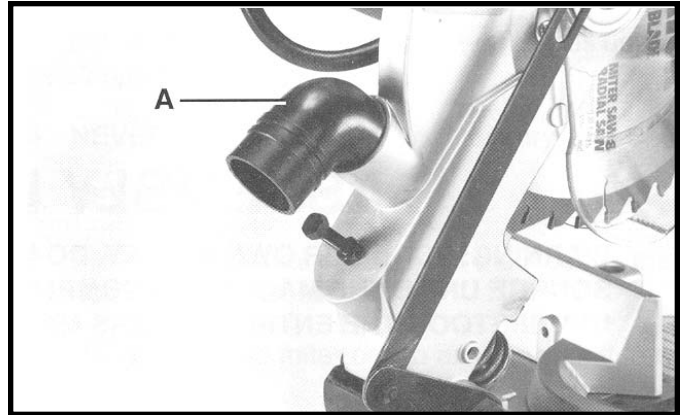

Fig. 6
1. Insert smooth end of dust spout (A) Fig. 6, into opening on bottom of blade guard, as shown.